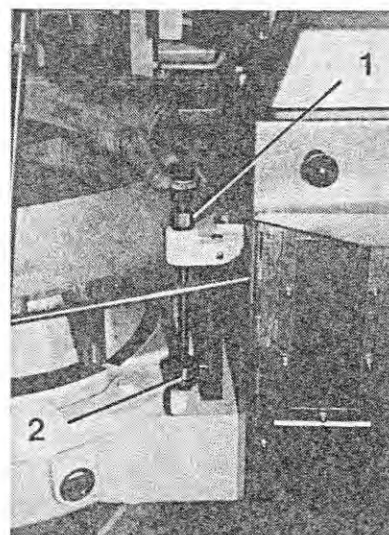

Fig. 160
26. Loosen the counternut (Figure 160/1) and turn the spindle to adjust the stop (Figure 160/2) of the roller lever to the package height which corresponds to the format. Tighten the counternut.